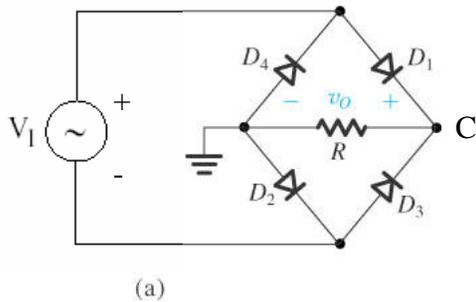

Fig. 5 Diode Bridge Rectifier
- (2a) (5 pts) Expand Fig. 4 into the diode bridge shown in Fig. 5 on your breadboard. (Add D2-D4 diodes)